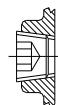

FIG. 1
- ⇒ Any unused holes in the enclosure must be closed with conical or cylindrical plugs in such way that anti-explosion seal characteristics of the enclosure are preserved. These plugs must only be removed with special tools (see FIG.1).